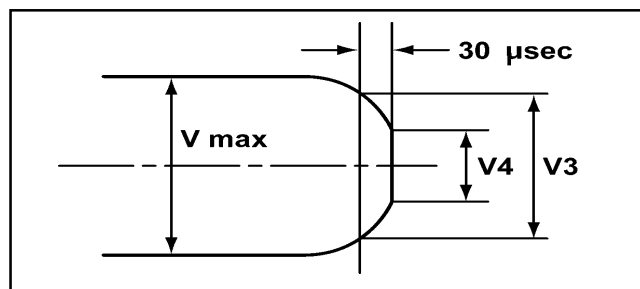

Figure 3-39-2 Exit side of Envelope Waveform
4. Playback the just recorded portion and confirm the envelope output is within the specification. (refer to figure 3-39-2).